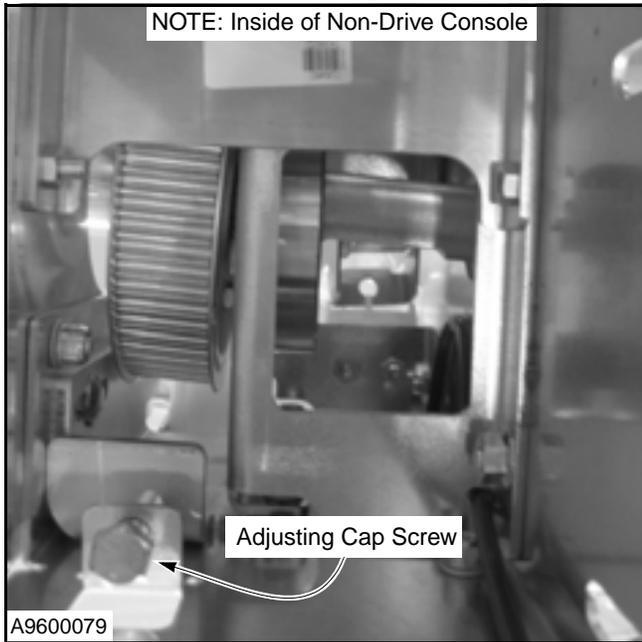

Figure 43
4. Turn cap screw to adjust guide pulley trolley. (See Figure 43.)